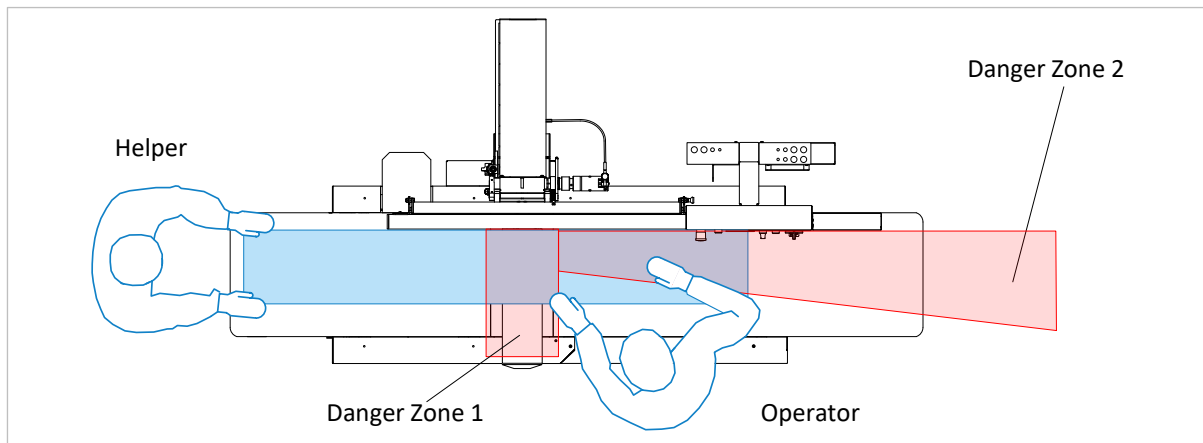

Figure 2: Danger zones
- When planing & jointing, the operator of the machine must generally stand in front of the dressing table, to the right of the cutter block resp. planer guard. It is forbidden to enter the Danger Zone 2 marked in ⇨ Figure 2 while the cutter is running.